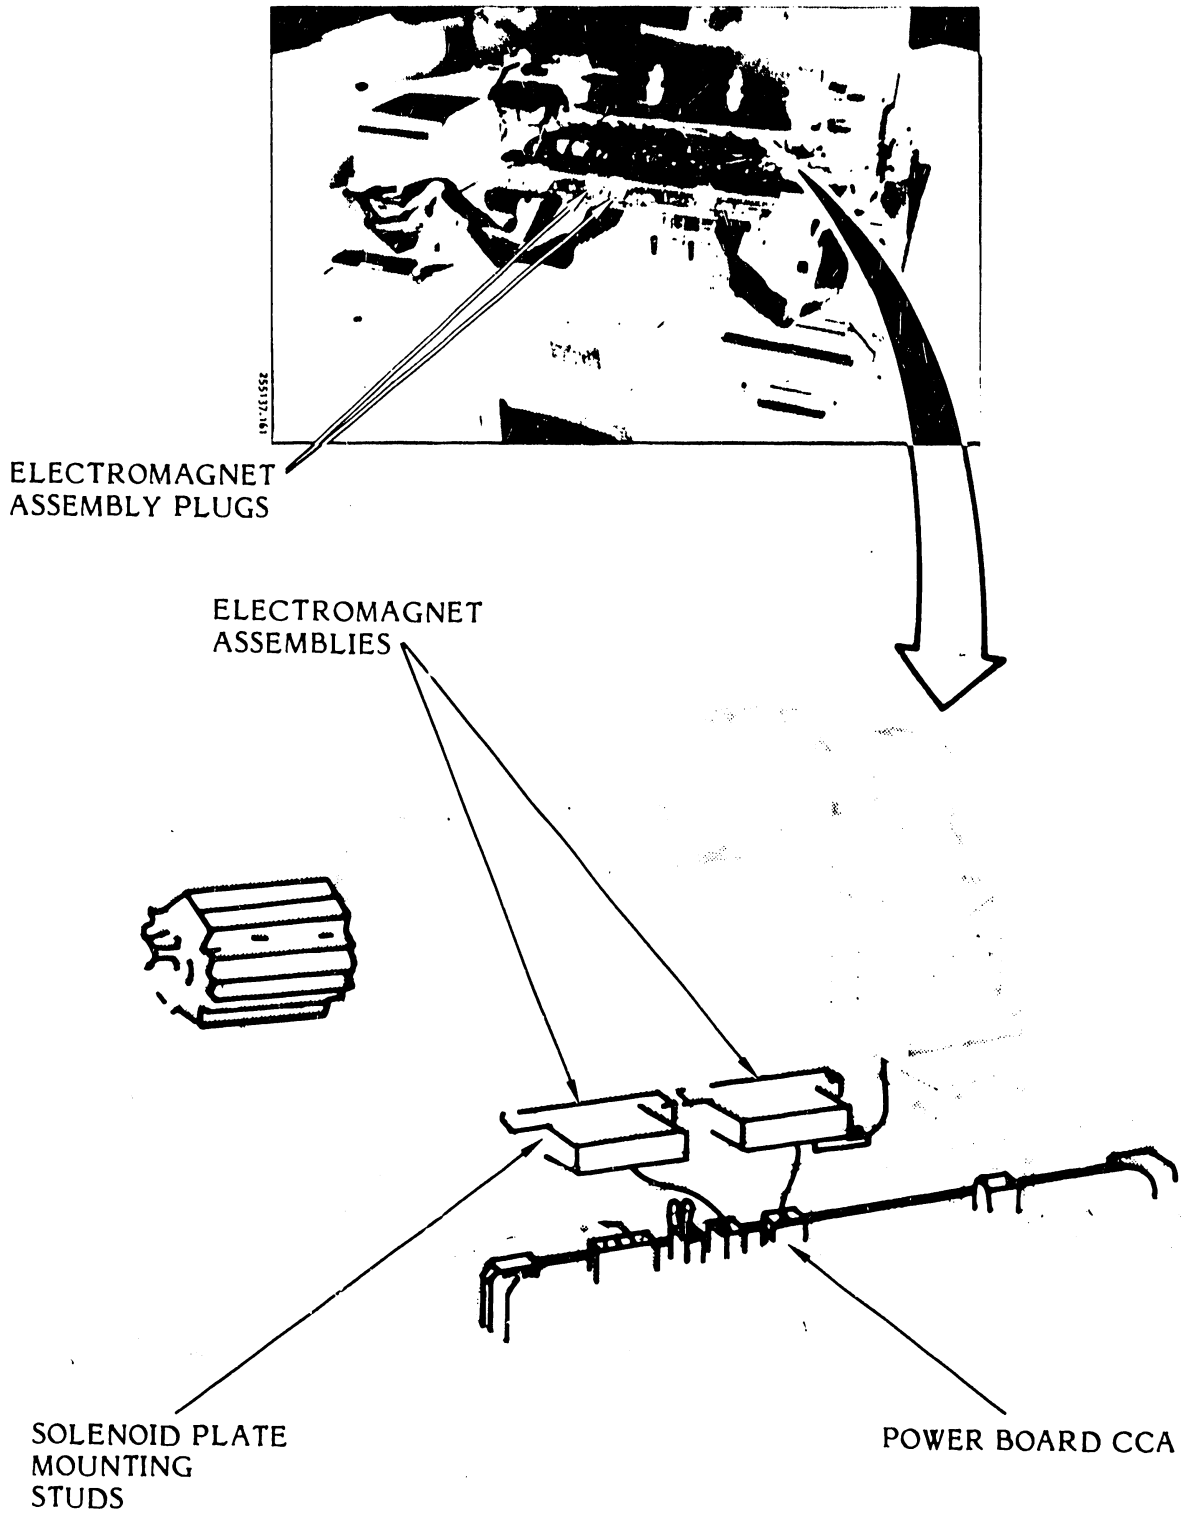

Figure 3-112. Paper Clamp Solenoid (600 LPM Printer) Removal/Installation
3.7.41 Paper Clamp Solenoid (600 LPM Printer) Removal/Installation (Figure 3-112)
- e. Use a 7 mm nut driver attachment and a ratchet driver to remove the two mounting nuts and electromagnet from the solenoid mounting plate (see figure 3-112).